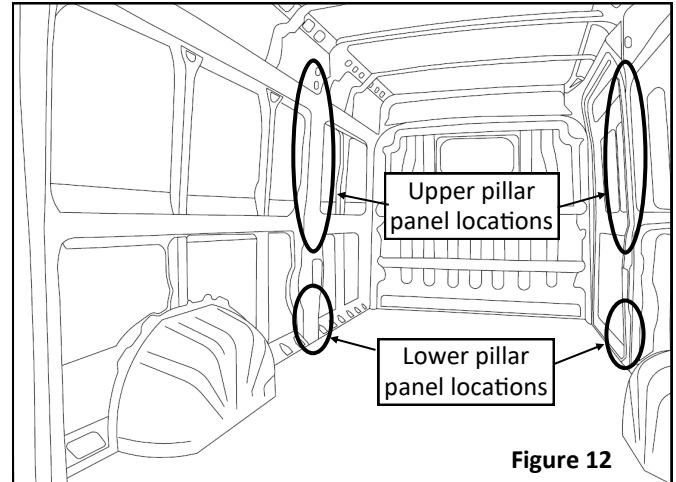

Figure 12
- a. Position the appropriate panel on the upper portion of the pillar located on the driver side of the van between the front and rear wall panels (see **Figure 12**). **NOTE:** Refer to the panel descriptions in the Bill of Materials on **Page 2** to determine which side of the van each panel belongs to.